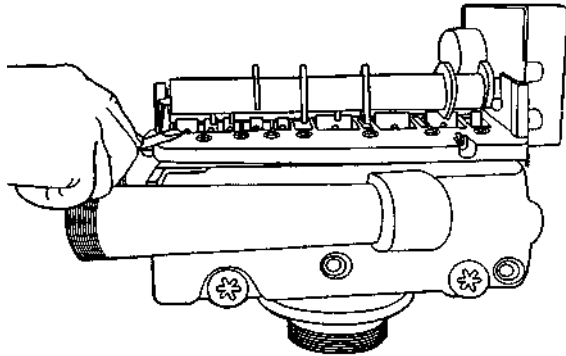

Figure 15
3. Remove cover and with screwdriver, relieve tank pressure by pushing open valve No. 7 (rear flapper) on control as shown (Figure 15).
3. Relieve system pressure by opening valve No. 7 (at rear) with a screwdriver (Figure 15).
2. Relieve pressure by opening the Backwash Drain Valve (the seventh back from the control) with a screwdriver (Figure 15).